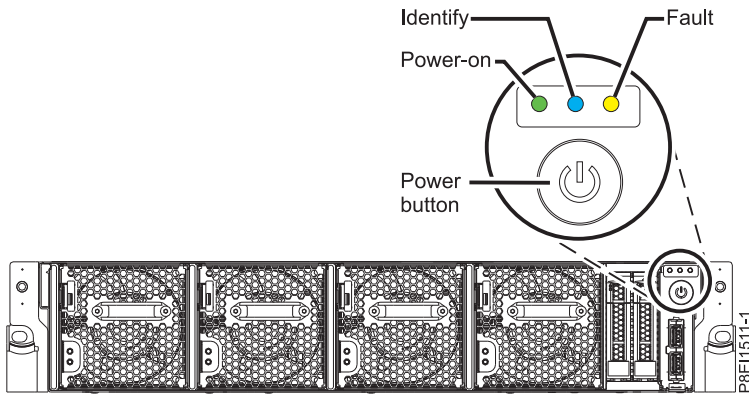

Figure 64. Power button
- The Power-on LED, as shown in Figure 64 on page 94, is flashing. A flashing light indicates standby power to the unit.
3. Press the power button shown in Figure 64 on page 94. The power-on light stops flashing and remains on, indicating that the system power is on. The system cooling fans are operate at a high speed, and after approximately 30 seconds, return to operating speed.